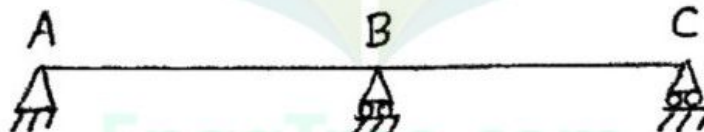

Figure 1
12. (a) A two span continuous beam ABC with spans $AB = BC = 4$ m (Figure 1). Determine and construct the influence line diagram for shear force at a point 3 m from the support A. Compute the ordinates at 1 m intervals.